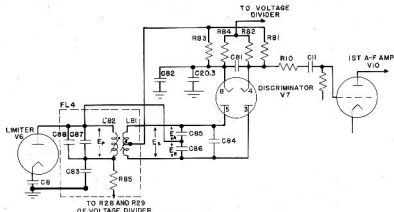

Fig. 27a. Radio Receiver BC-683-A: Functional Diagram of Discriminator
e. Discriminator. The purpose of the discriminator is to transform the received intermediate-frequency currents (which are frequency-modulated) into amplitude variations at audio frequencies. A functional diagram is shown in Fig. 27a.
The discriminator uses the phase shift between the primary and secondary windings of the intermediate-frequency transformer at the input of V7. Look at the diagram, Fig. 27a; the signal voltage across the primary L82 is shown as E_p . The tapped secondary winding L81 is shown as two windings in series. The induced voltage across these two windings is shown as E_s . Voltage E_s is developed across the capacitors C85 and C86 in series. Since C85 and C86 are very closely matched, their junction is at the same voltage as the midpoint of the secondary tuned circuit of FL4. The voltage across C85 is impressed on one diode (terminals 5 and 8 of V7). The return path is through capacitors C20.3 (which is paralleled by C82), ground, C83, C87 (which is paralleled by C88), and back to the junction of C85 and C86. The other half of the secondary voltage (developed across C86) is impressed on the other diode (terminals 3 and 4 of V7). The return is through C81, C20.3, ground, C83, C87, and back to the junction of C85 and C86.